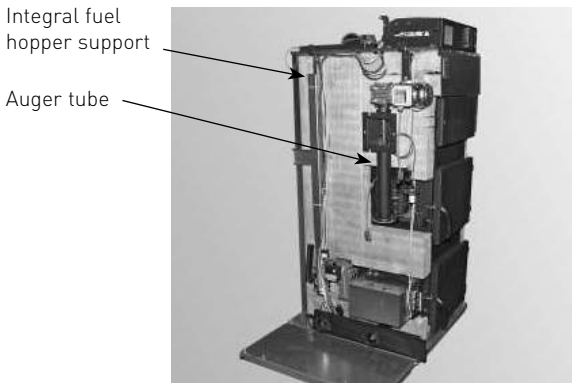

Fig. 15 Boiler aligned with floor plate
- Remove support for integral fuel hopper (part 15) from boiler by removing transport attachments (cable ties) – Fig. 15.